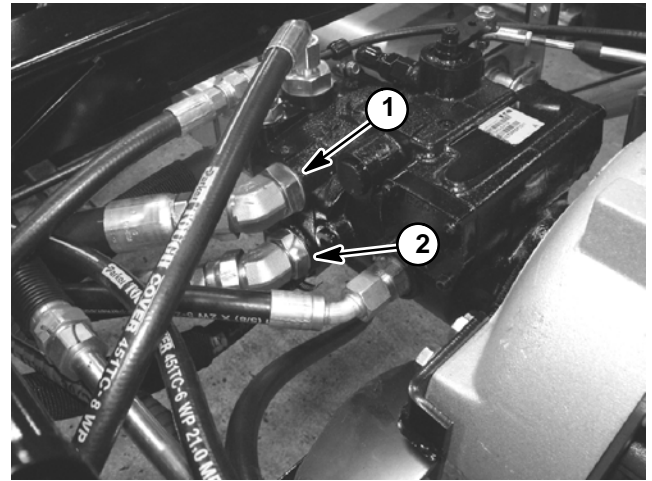

Figure 26
3. Clean and disconnect hydraulic pressure hose from piston pump fitting on right side of pump for function to be checked (Fig. 26):